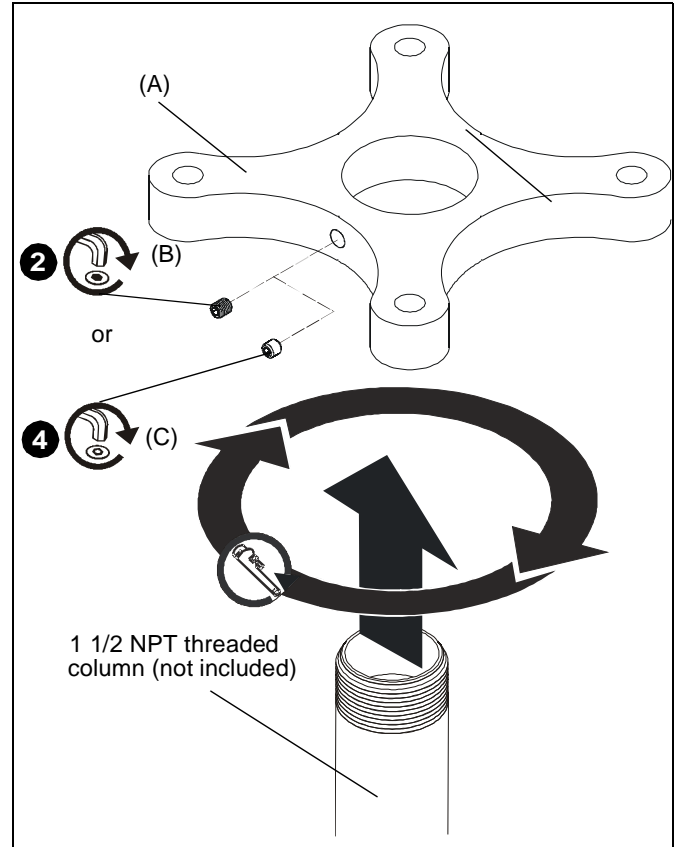

Figure 2
1. Install 1-1/2" NPT or NPSM following ANSI/ASME B1.20.1 (Schedule 40, 0.154" minimum thickness aluminum - ASTM B221) threaded extension column (not included) into threaded collar until tight, with a minimum of four threads engaged. (See Figure 2)
2. Install 5/16-18 x 3/8" set screw (B) into hole on ceiling plate (A) to secure pipe to mount. (See Figure 2)
4. Install 1-1/2" NPT or NPSM following ANSI/ASME B1.20.1 (Schedule 40, 0.154" minimum thickness aluminum - ASTM B221) threaded extension column (not included) into threaded collar until tight, with a minimum of four threads engaged. (See Figure 2)
5. Install #10-24 x 1/4" button head security screw (C) into hole on ceiling plate (A) to secure pipe to mount. (See Figure 2)